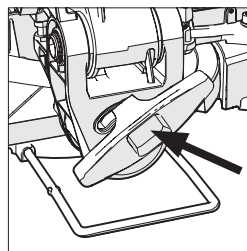

Fig. 20
- Loosen the bevel locking screw (Fig. 20).